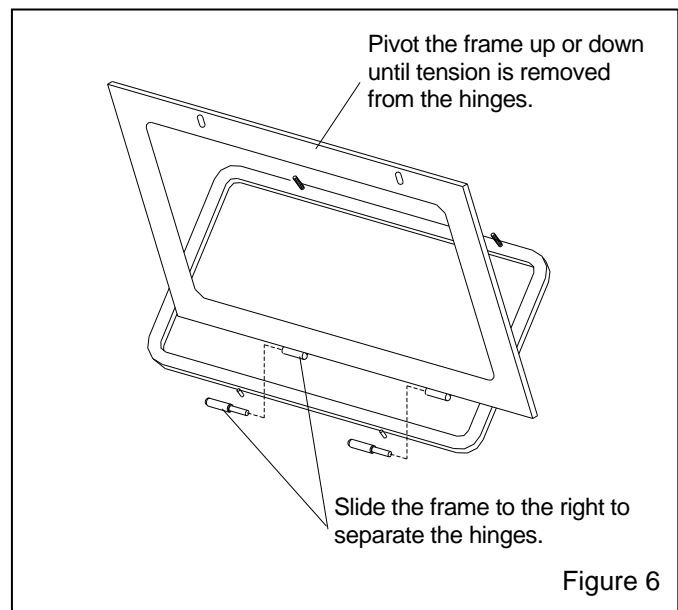

Figure 6
7.5 Window Frame Removal, Figure 6
7.5.4 Slide the frame to the right, to remove. The hinges separate as shown in Figure 6.